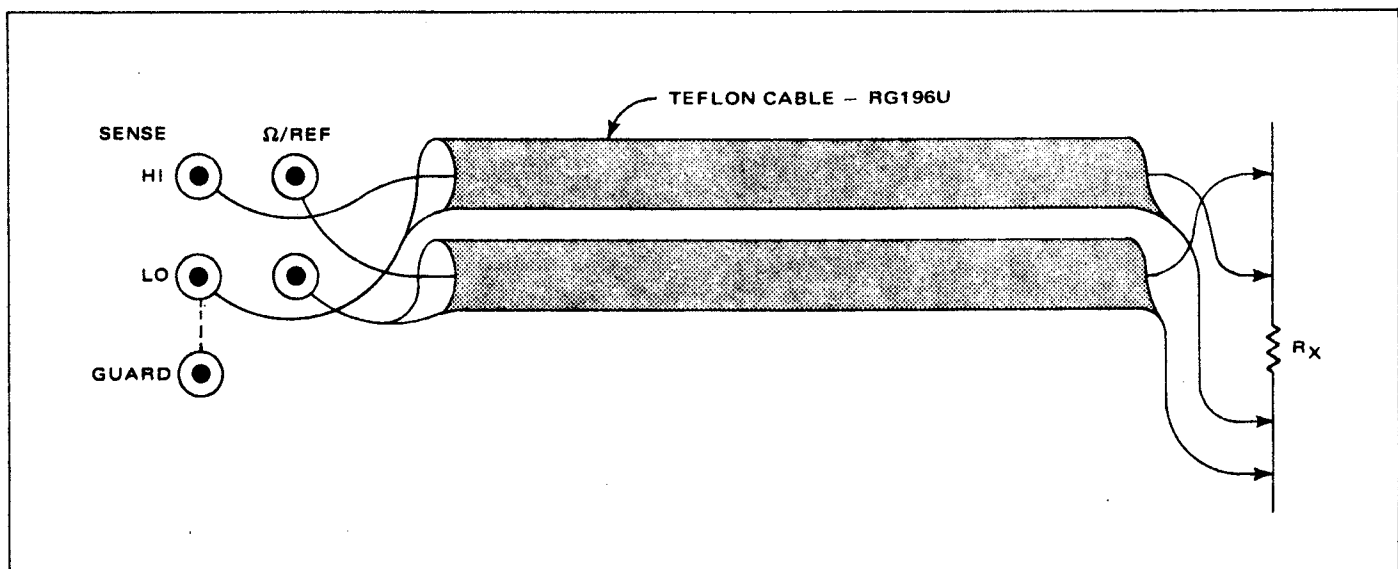

Figure 3.3 - Ohms Measurement Connection
3.5.4.2 Connecting the instrument to a resistor for ohms measurement consists of connecting both the HI  $\Omega$  current and HI SENSE terminals to one side of the resistor and both the LO  $\Omega$  current and LO SENSE terminals to the other side of the resistor. An example is shown in figure 3.3.